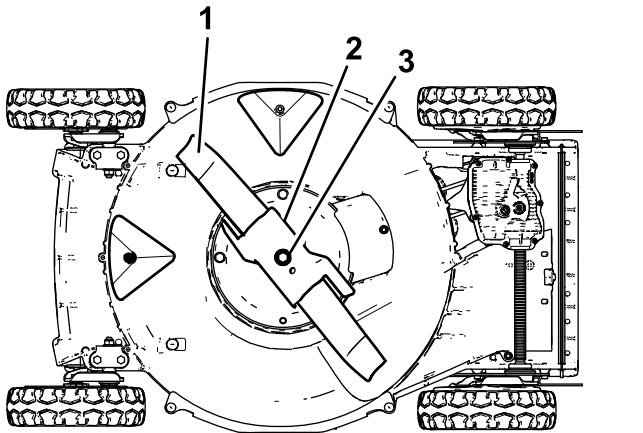

Figure 25
4. Tip the machine onto its **right** side (air cleaner up) as shown in Figure 25.